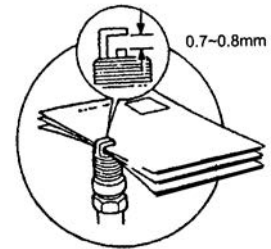

Figure 17
- 3) Measure the electrodes clearance. See Fig.17. The spark plug electrode clearance should be between 0.7-0.8mm. If the clearance exceeds 0.8mm, replace the spark plug with an LD F7TC or equivalent (NGK BP6ES, Champion N9Y).